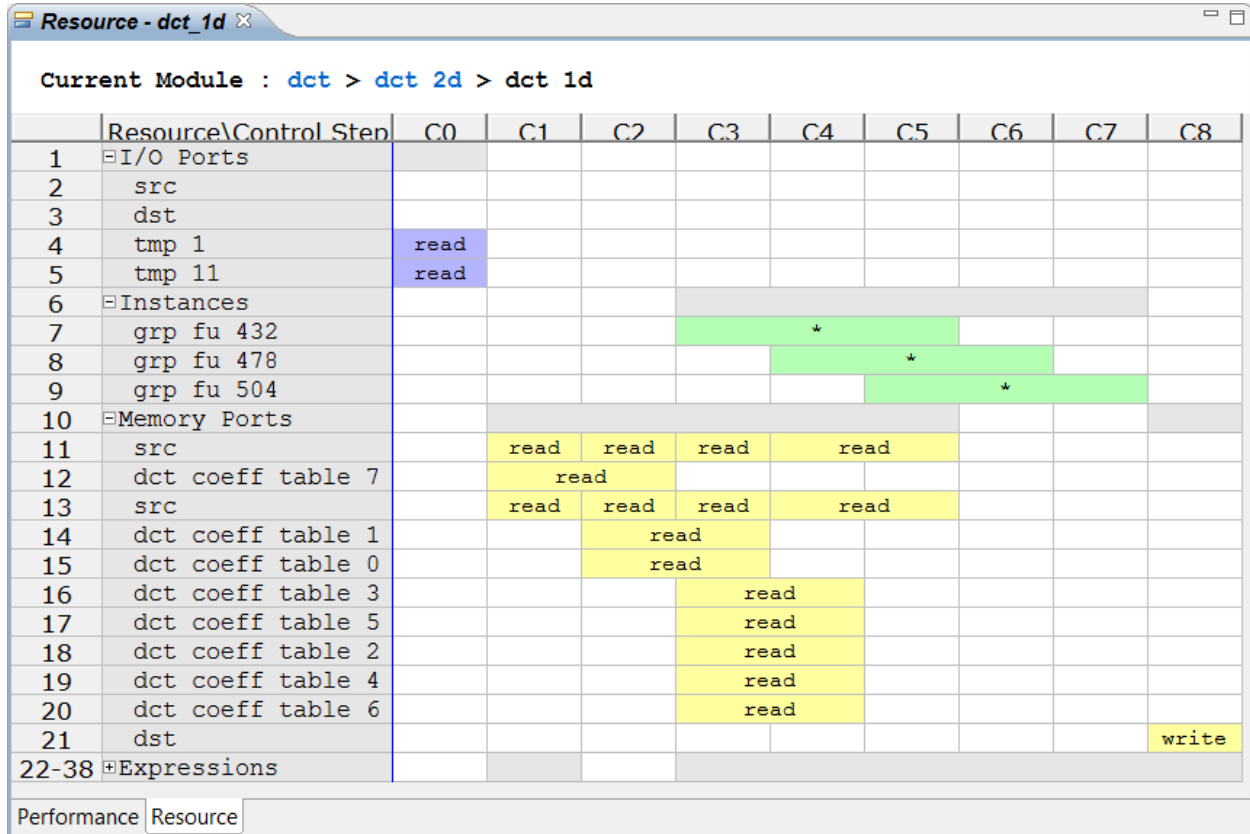

Figure 129: Resource Sharing of Memory Ports in dct_1d
15. Expand the **Memory Ports**, as shown in **Figure 129**.
The rows list the resources in the design. In **Figure 129**, the memory resources are expanded.
Figure 129 shows the memory accesses on BRAM `src` are being used to the maximum in every clock cycle. (At most, a block RAM can be dual-port and both ports are being used). This is a good indication the design may be bandwidth-limited by the memory resource. To determine if this really is the case, you can examine further.